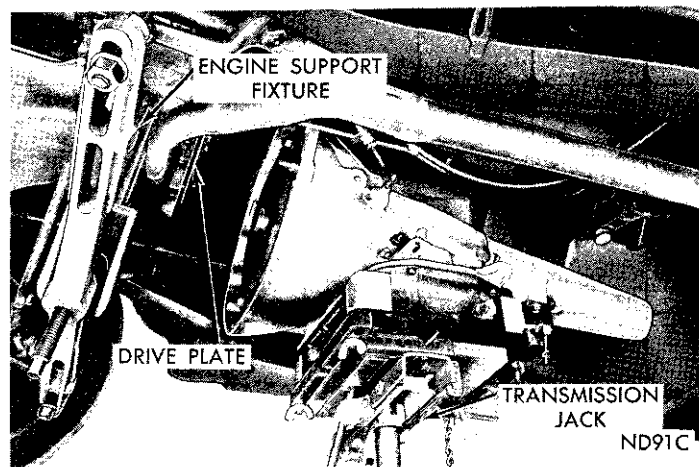

Fig. 30—Engine Lifting Fixture
(11) Disconnect throttle rod from bellcrank at left side of transmission bell housing.
(12) Disconnect oil cooler lines at transmission and remove oil filler tube. Disconnect the speedometer cable.
(13) Mark parts for reassembly then disconnect propeller shaft at rear universal joint. Carefully pull shaft assembly out of the extension housing.
(14) Remove rear mount to extension housing bolts.
(15) Install engine support fixture, Tool C-3487A and raise engine slightly (Fig. 30).
(16) Remove crossmember attaching bolts and remove the crossmember.
(17) Place a transmission service jack under transmission to support the assembly.
(18) Attach a small "C" clamp to edge of converter housing to hold converter in place during removal of the transmission.
(19) Remove converter housing retaining bolts. Carefully work transmission rearward off engine block dowels and disengage converter hub from end of the crankshaft (Fig. 30).
(20) Lower transmission jack and remove transmission and converter assembly.
(21) To remove converter assembly, remove "C" clamp from edge of the housing, then carefully slide assembly out of the transmission.